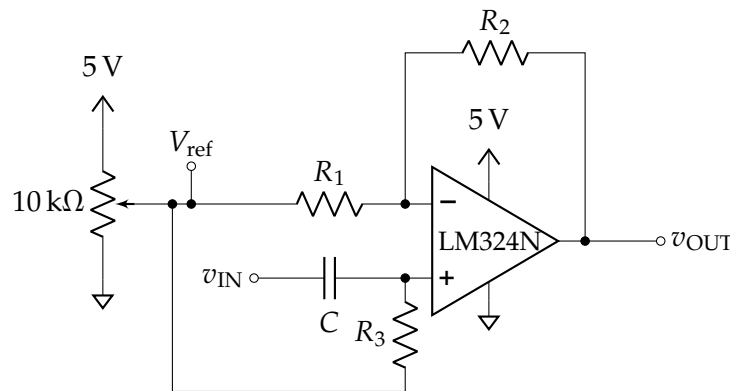

Figure 13.12: Single Supply High Pass Filter
5. **EC:** In order to bias the opamp correctly, we need to set the DC value of the inputs to a value inside the common mode input range. Construct the revised circuit in figure 13.12. Set the potentiometer so that V_{ref} is in the center of the common mode input range of the op amp.